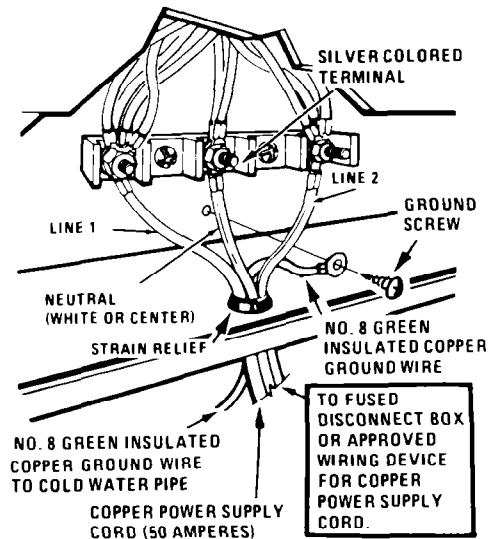
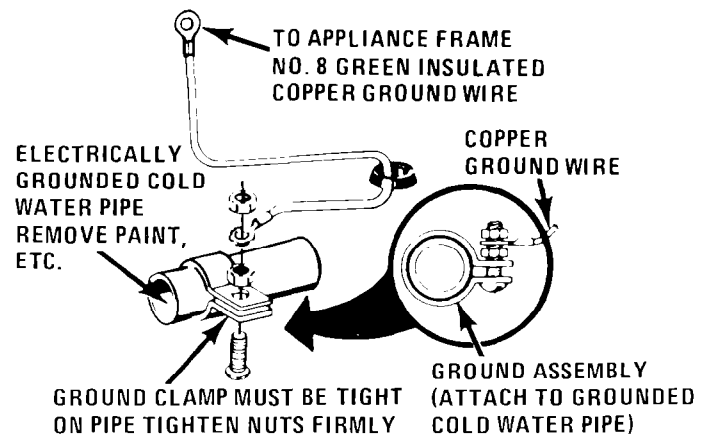

FIGURE 5
FIGURE 6
C. Connect the neutral wire of the copper power supply cord to the center silver colored terminal of the terminal block and connect the other wires to the outer terminals. See Figure 5. Ring type terminals must be used on the copper power supply cord wires.
D. Connect a separate insulated green colored copper ground wire (No. 8 minimum) to a grounded cold water pipe* by means of a clamp, and then to the frame of the appliance with the ground screw, using the hole in the frame where the ground strap was removed. See Figure 5. Do not ground to a gas supply pipe. Do not connect the copper power supply cord to electric power until appliance is permanently grounded. See Figure 6.